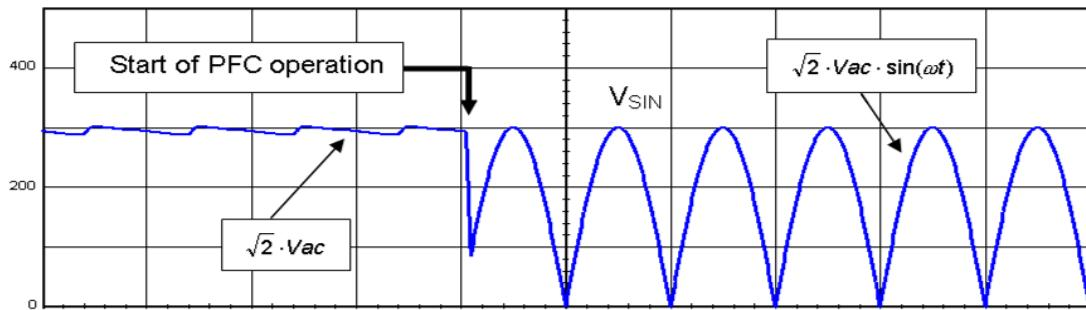

Figure 23. Typical Input Voltage of a PFC Stage
- ◆ Before operation, the PFC stage is off and the input bridge acts as a peak detector (refer to Figure 23). As a consequence, the input voltage is approximately flat and nearly equates the ac line amplitude: $v_{in}(t) = \sqrt{2} \cdot V_{in,rms}$, where $V_{in,rms}$ is the rms voltage of the line. Hence, the voltage applied to the BO pin (pin 7) is: $V_{BO} = \sqrt{2} \cdot V_{in,rms} \cdot \frac{R_{bo2}}{R_{bo1} + R_{bo2}}$.